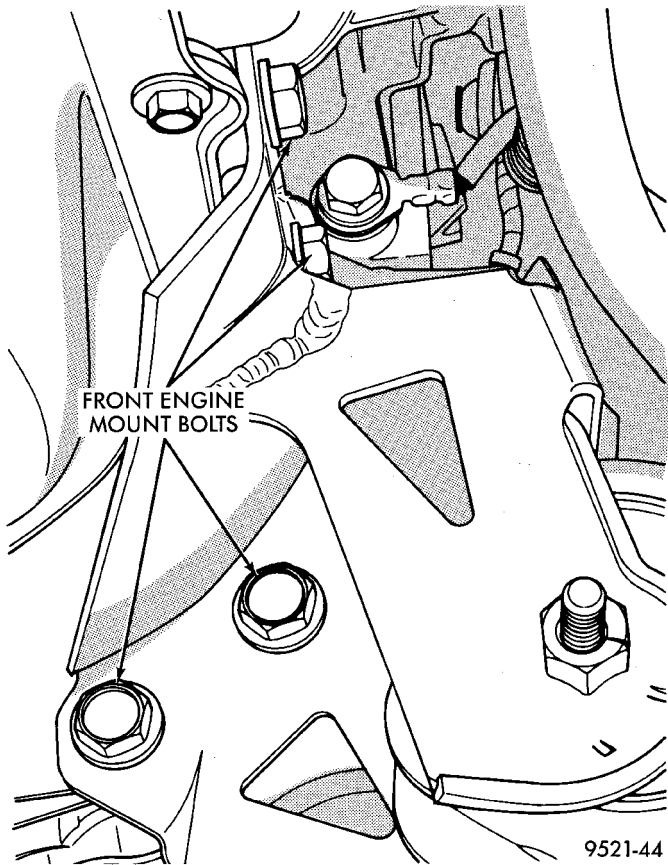

Fig. 38 Front Engine Bracket
(15) Remove front engine bracket through-bolt. Remove front engine bracket bolts (Fig. 38).